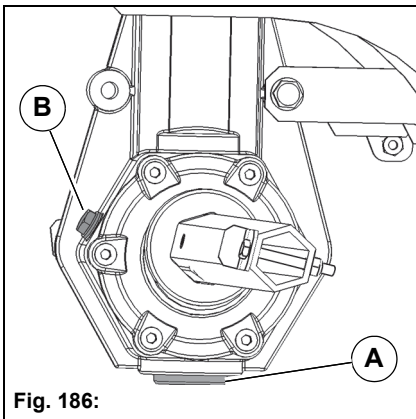

Fig. 186:
2. Pull up the handle **Fig. 186-A** for adjusting the V-belt.
3. Open the locking clamp and unhook the fork head **Fig. 186-B**.
4. Adjust the V-belt tension with the bolt **Fig. 186-C**.
1. Place a suitable collecting pan under the drain screw **Fig. 186-A**.
4. Unscrew the filling screw **Fig. 186-B** and fill with SAE 80W90 gearbox oil. Filling volume = 0.4 litres.